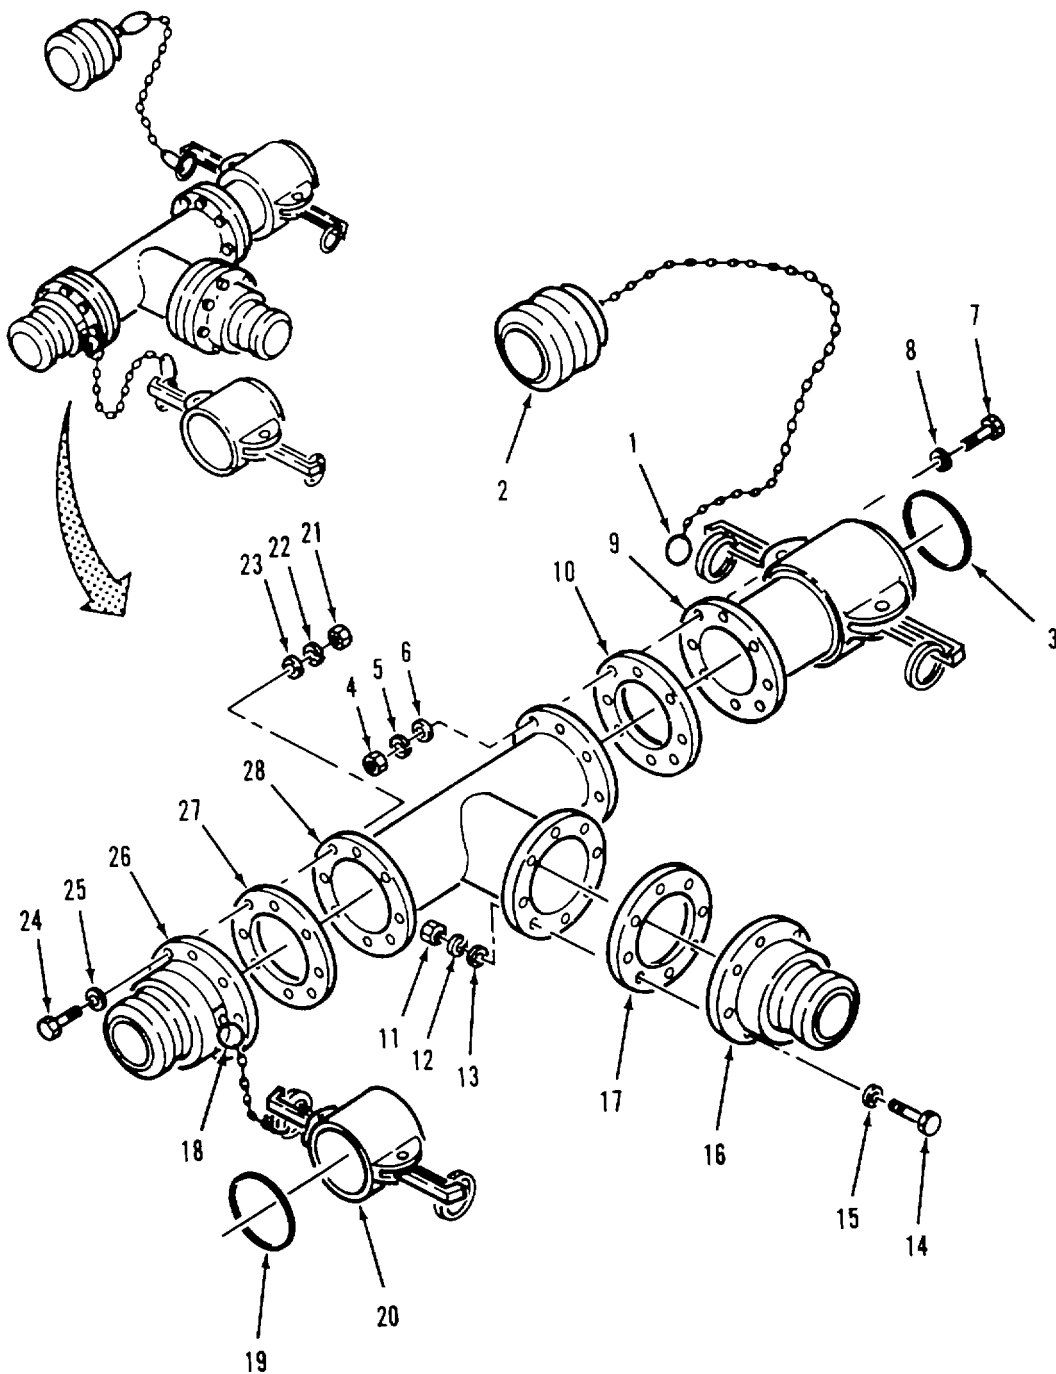

Figure 4-6. Tee Assembly (9117-Y1) Disassembly.
- a. Disassembly. Refer to figure 4-6.
- (1) Disconnect ring (1) from female coupling (9) and remove plug (2).
- (2) Remove gasket (3) from female coupling (9).
- (3) Remove eight nuts (4), lock washer s (5), flat washers (6 and 8), and bolts (7).
- (4) Separate female coupling (9) and gasket (10) from tee (28).
- (5) Remove eight nuts (11), lockwashers (12), flat washers (13 and 15), and bolts (14).
- (6) Separate male coupling (16) and gasket (17) from tee (28).
- (7) Disconnect ring (18) from male coupling (26) and remove cap (20).
- (8) Remove gasket (19) from cap (20).
- (9) Remove eight nuts (21), lockwashers (22), flat washers (23 and 25), and bolts (24).
- (10) Separate male coupling (26) and gasket (27) from tee (28).